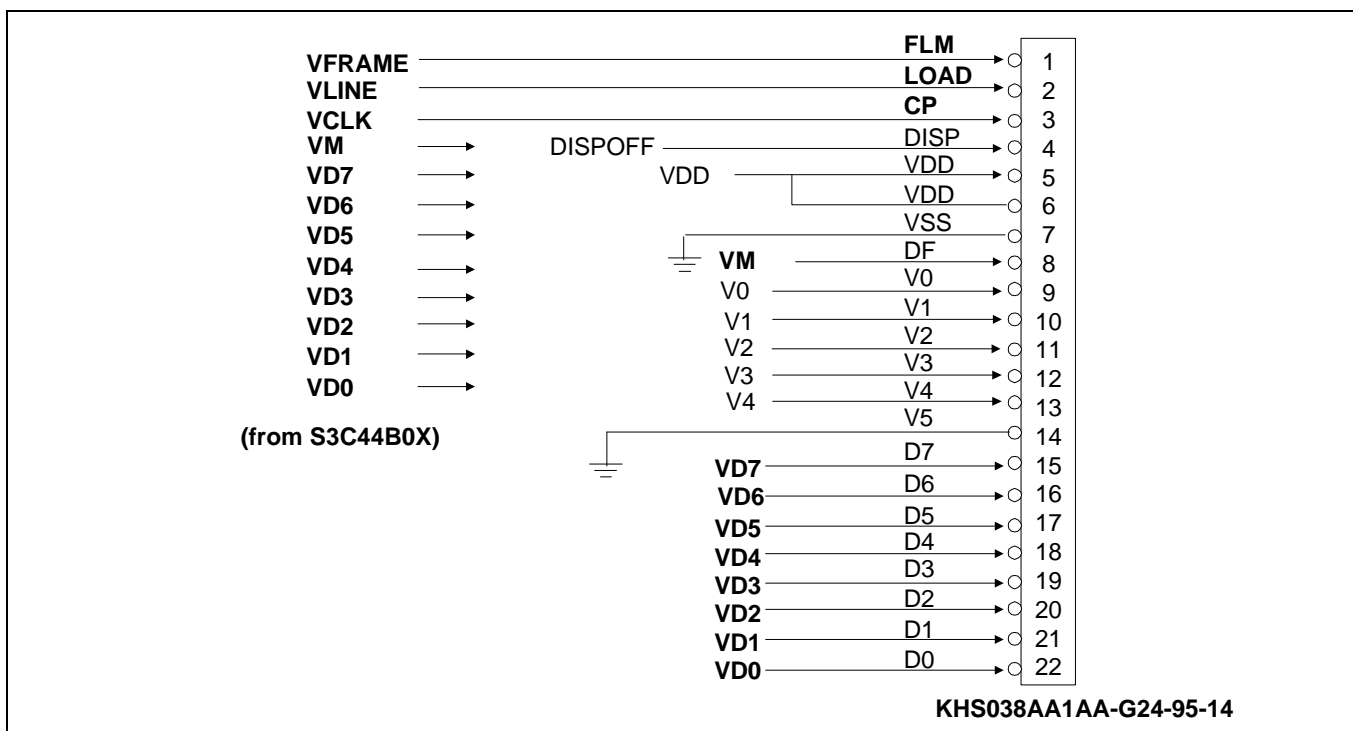

Figure 4-16 KHS038AA1AA-G24 connection with S3C44B0X (256 color STN LCD)
- KHS038AA1AA-G24 (256 color STN LCD) from KYOCERA Co. (refer to Figure 4-16)